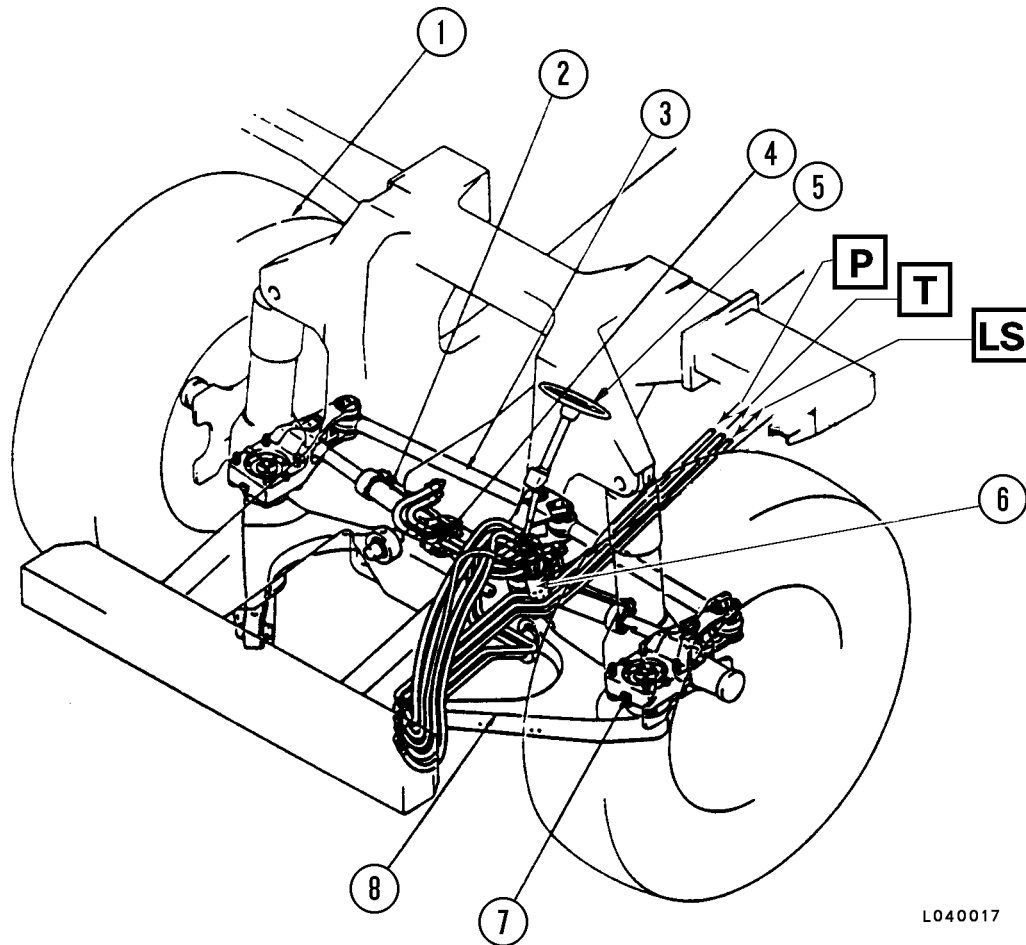

FIGURE 4-1. STEERING SYSTEM COMPONENTS
The steering system is a self-metering, power steering type. When the steering wheel (5, Figure 4-1) is rotated, the steering control valve (6) is actuated causing the oil to flow into the steering cylinder (2). Extending one steering cylinder while retracting the opposite steering cylinder will change the angle of the front wheels, allowing the operator to steer the truck as desired. The tie rod (3), attached to the knuckle (7) maintains a constant angular relationship between the left and right wheels.